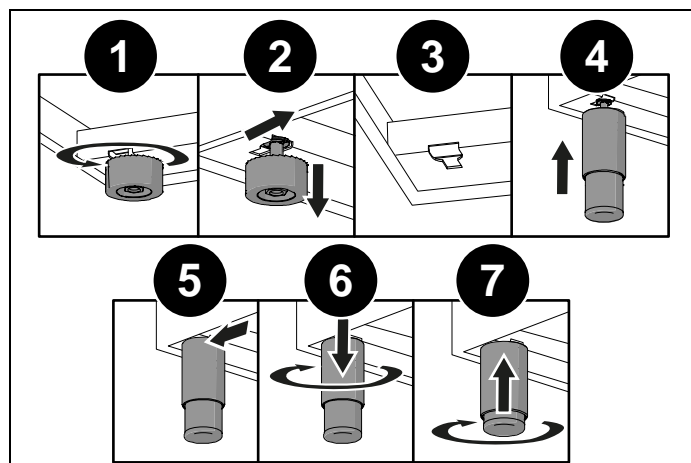

Fig. 5
- remove the supports (1 and 2, Fig. 5 ),
- fit the feet into the keyhole in the underside of the appliance (3 and 4, Fig. 5 ),
- screw the feet down until they are securely fixed to the base (5 and 6, Fig. 5 ),
Adjust the feet to the correct height (7, Fig. 5 ).
When lowering the appliance, do not maintain the pressure on the feet (Fig. 5 ). Use a shim underneath the base or a pallet to avoid tilting the cooker.